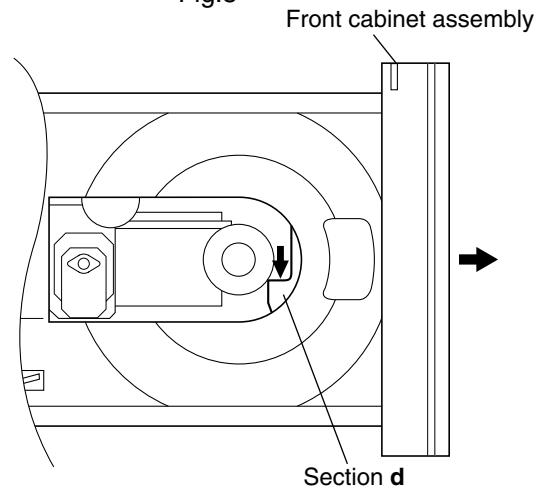

Fig.9
4. Push the section **d** on the elevator of the CD mechanism assembly and lower the CD pickup assembly. (See Fig.9.)